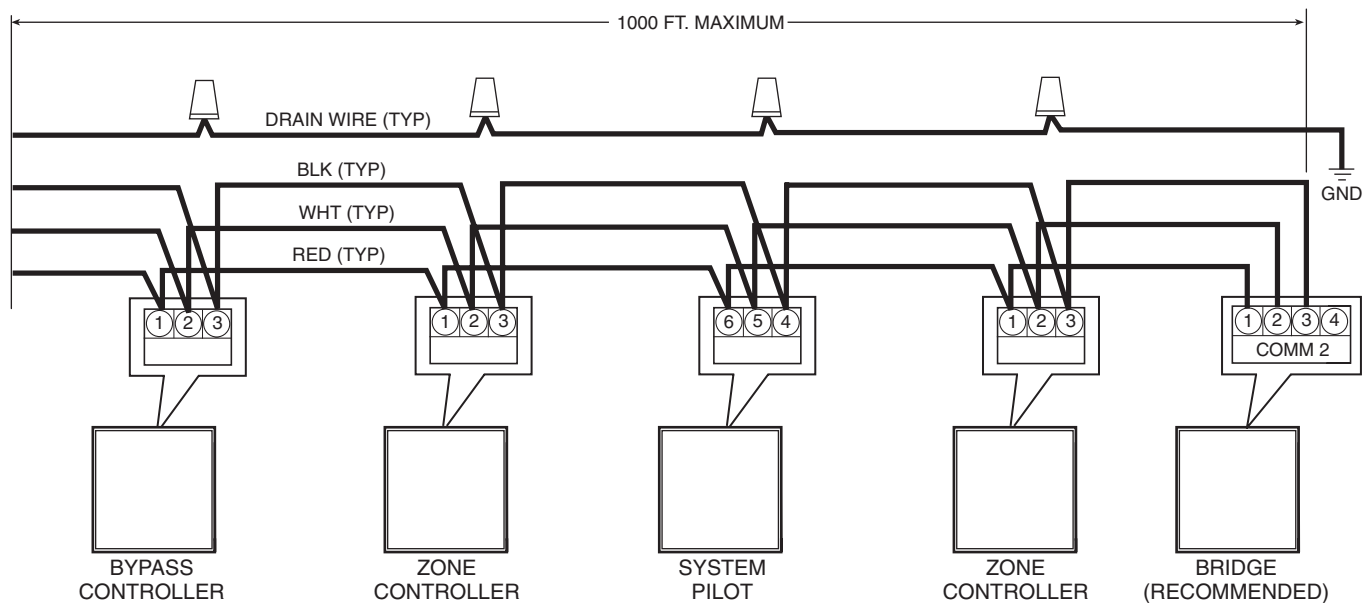

**Fig. 11 — Communication Bus Wiring**
The first device in a network connects directly to the bridge and the others are wired sequentially in a daisy chain fashion. Refer to Fig. 11 for an illustration of communication bus wiring.
4. Connect additional devices in a daisy chain fashion, following the color coded wiring scheme in Table 4. Refer to Fig. 11.